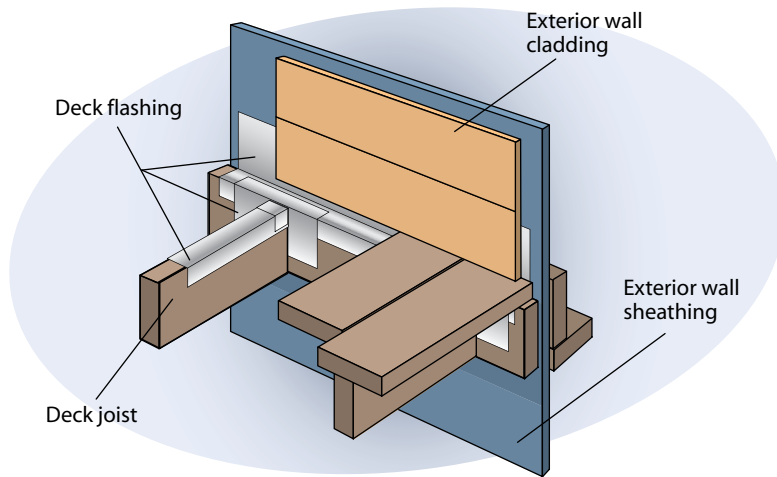

Figure 3. Deck flashing.
- To prevent ember intrusion in gaps between the decking and home (such as in offset ledger board construction), cover the gaps with 1/8-inch metal screening. Install flashing on ledger boards that are attached without gaps to create a barrier to embers and prevent water from penetrating (see Figure 3).